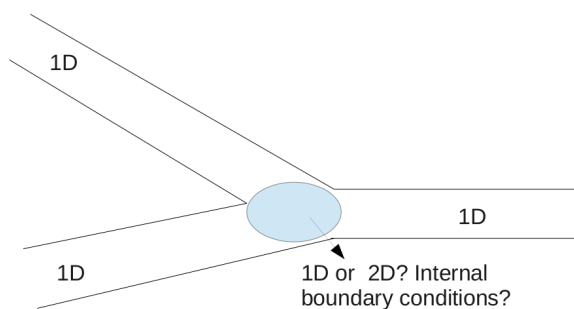

Figure 2:
2. For flow at a junction, is it possible to come up with internal boundary conditions/constraints without the necessity to solve the 2D shallow water equations? How do the boundary conditions compare with a 1D-2D coupling at the junction? (reference: Fig. 2)